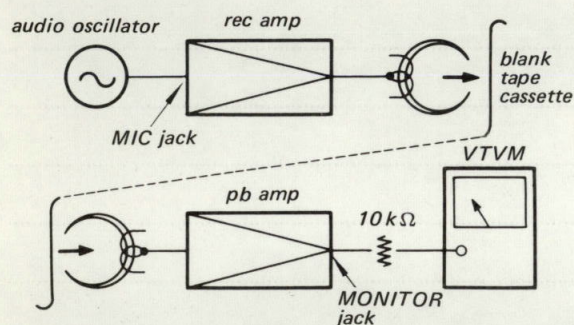
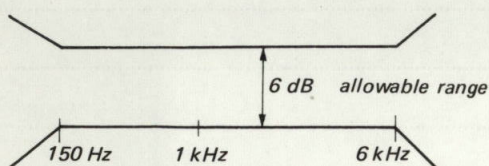

Fig. 8-6.
Fig. 8-7.
8-4-1. Overall Frequency Response Measurement (Fig. 8-6 and Fig. 8-7)
2. Playing back the recorded 1 kHz signal, set the PB VOLUME for -10 dB (0.24 V) on the VTVM connected as shown in Fig. 8-6.
4. The output level should meet the following specification in Fig. 8-7.